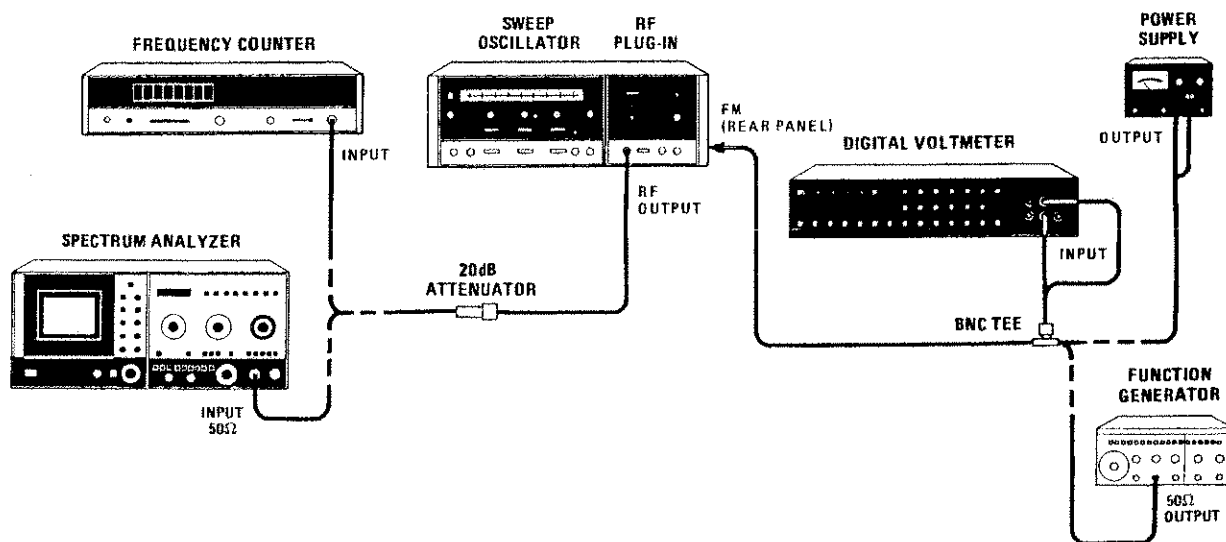

Figure 5-12. FM Sensitivity Adjustment Test Setup
- a. Connect equipment as shown in Figure 5-12. Do not connect power supply to rear-panel FM input. Connect frequency counter to RF OUTPUT.